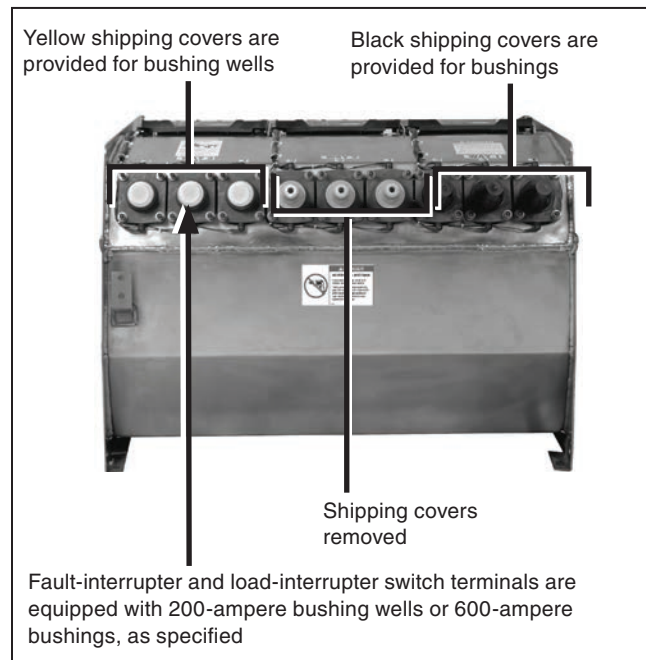

Figure 15. Shipping covers on bushings and bushing wells.
STEP 8. Remove the shipping covers from the bushings and bushing wells. See Figure 15.